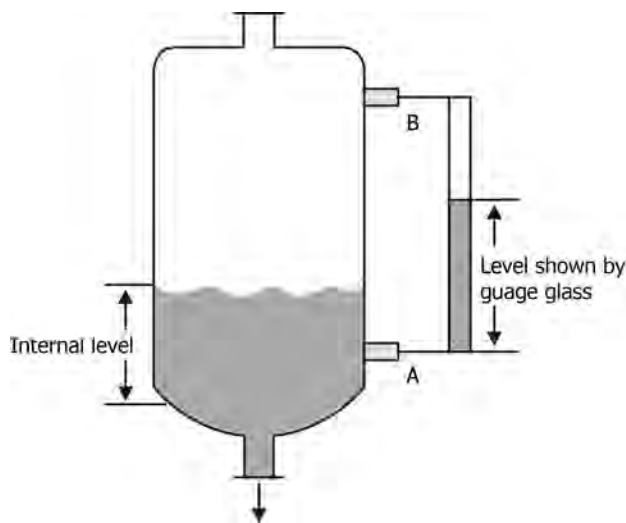

FIGURE 1.19 Liquid level measurement.
- Figure 1.19 shows the discrepancy between internal and external levels for a vessel.